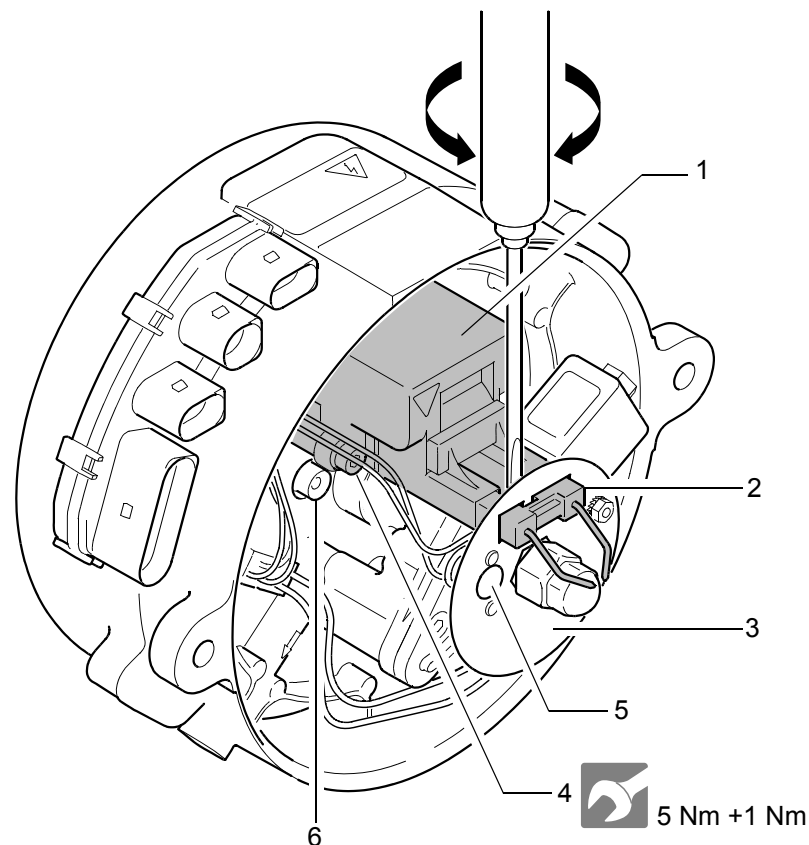
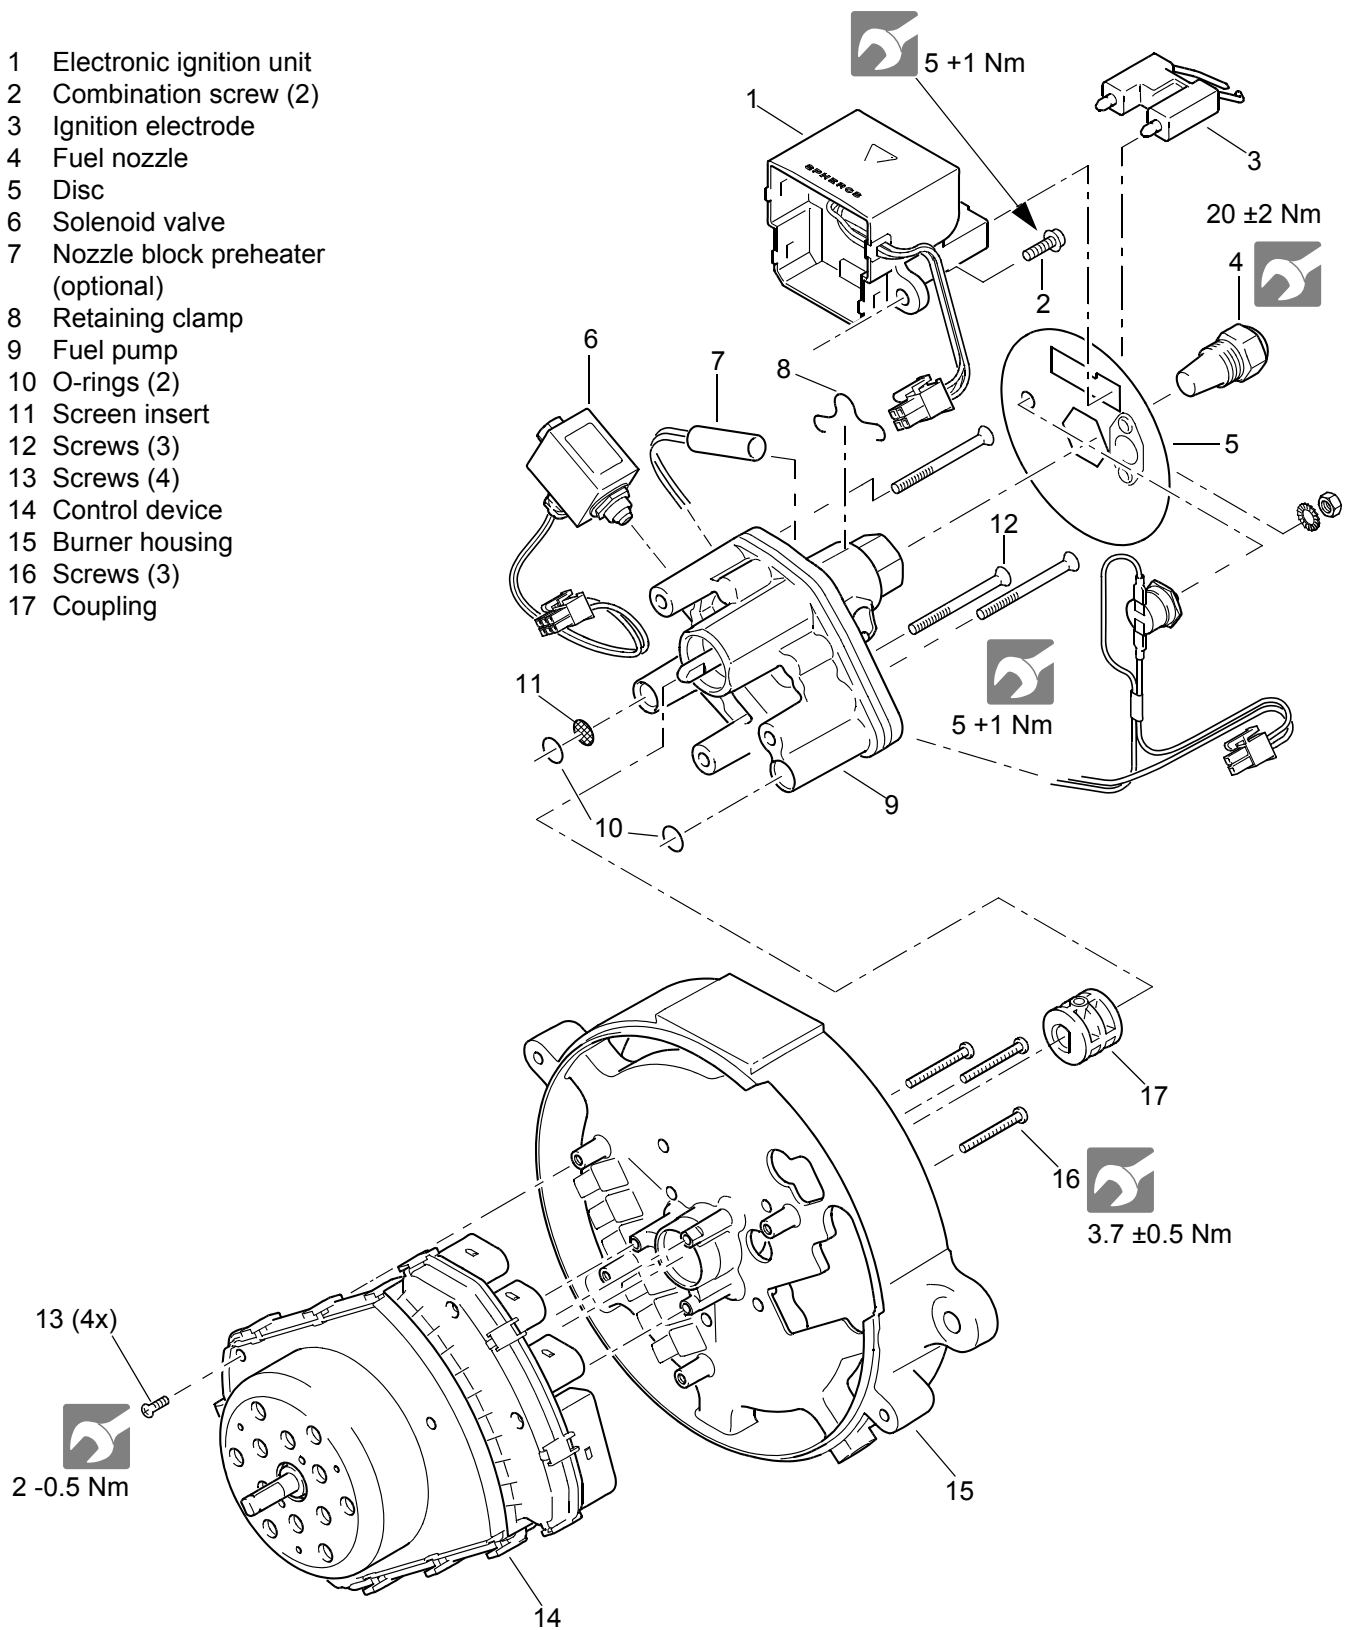

Fig. 804 Electronic ignition unit / ignition electrode removal and installation
Fig. 805 Components removal and installation
2. Lift off ignition electrode from the electronic ignition unit by twisting a screwdriver sideways (see Fig. 804) and remove it.
3. Remove the disc (3) from the nozzle holder.
5. Remove the combination screws (4).
6. Pull electronic ignition unit (1) off and remove it.
1. Bring electronic ignition unit (1, Fig. 804) into installation position and secure with combination screws (4).
3. Fit the disc (3) onto the nozzle holder of the fuel pump (9, Fig. 805) and align it so, the ignition electrode (2, Fig. 804) may inserted into the electronic ignition unit.
4. Insert ignition electrode (2, Fig. 804) into the electronic ignition unit.
- 4 Screws (2)
2. If necessary remove the coupling (17, Fig. 805) from the shaft of the burner motor.
4. Remove the 4 screws (13), securing the control device to the burner housing.
5. Remove the 3 screws (16), securing the burner motor to the burner housing.
6. Remove the control device (14) from the burner housing (15).
1. Position the control device (14, Fig. 805) onto the burner housing.
2. Screw in the 3 screws (16), securing the burner motor to the burner housing and tighten them.
3. Install the 4 screws (13), securing the control device to the burner housing and tighten them.
5. Put the coupling (17, Fig. 805) onto the shaft of the burner motor.
2. Remove disc (3, Fig. 804).
5. Remove and discard the 3 screws (12, Fig. 805), securing the fuel pump to the burner housing.
6. Remove the fuel pump (9) incl. solenoid valve (6).
7. Remove and discard the O-rings (10) and the screen insert (11).
8. If necessary remove the solenoid valve (6) from the fuel pump (9) (see 8.9).
- 2 Combination screw (2)
1. If necessary, install solenoid valve (6, Fig. 805) onto the fuel pump (9) (siehe 8.9).
2. Install new O-rings (10) and a new screen insert (11) into the fuel pump (9).
**In order to avoid damage to the O-rings, to not twist fuel pump (9) during assembly.**
3. Align the fuel pump (9) with the burner housing (15) and bring it into installation position. Before doing this, align if necessary the coupling (17) by rotating it on the burner motor shaft.
4. Mount the fuel pump (9) using 3 new screws (12, with coated threads) and tighten them.
5. Reconnect the solenoid valve (6) plug to the control device (14).
7. Install disc (3, Fig. 804).
2. Lift off ignition electrode (3, Fig. 805) from the electronic ignition unit by twisting a screwdriver sideways (see Fig. 804) and remove it.